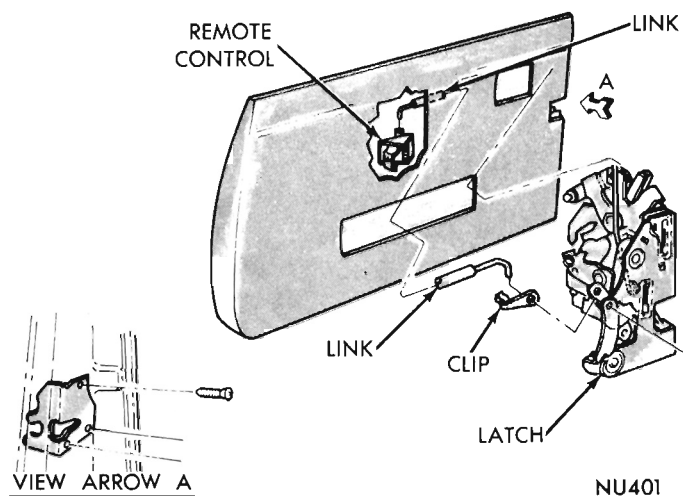

Fig. 16 - Door Lock and Control
- (1) Disconnect handle to latch link (Fig. 16) from latch by pulling link outward.
- (2) Disconnect locking lever rod (front door only) from latch.
- (3) Disconnect control rod from latch.
- (4) Remove latch to door screws.
- (5) Rotate latch and disconnect remote control link when removing.
- (6) Lubricate all moving points of latch.